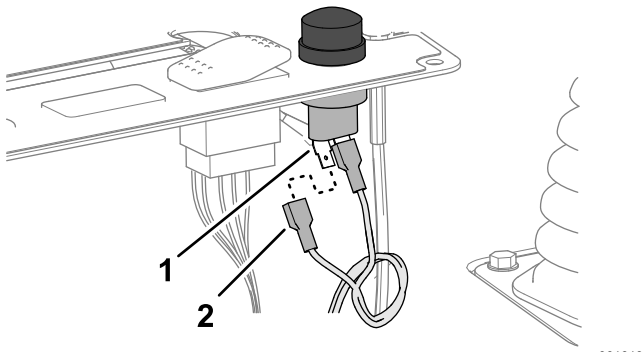

Figure 18
- Connect the 2 terminals of the wire harness labeled HORN SWITCH to the terminals of the horn switch (Figure 18).